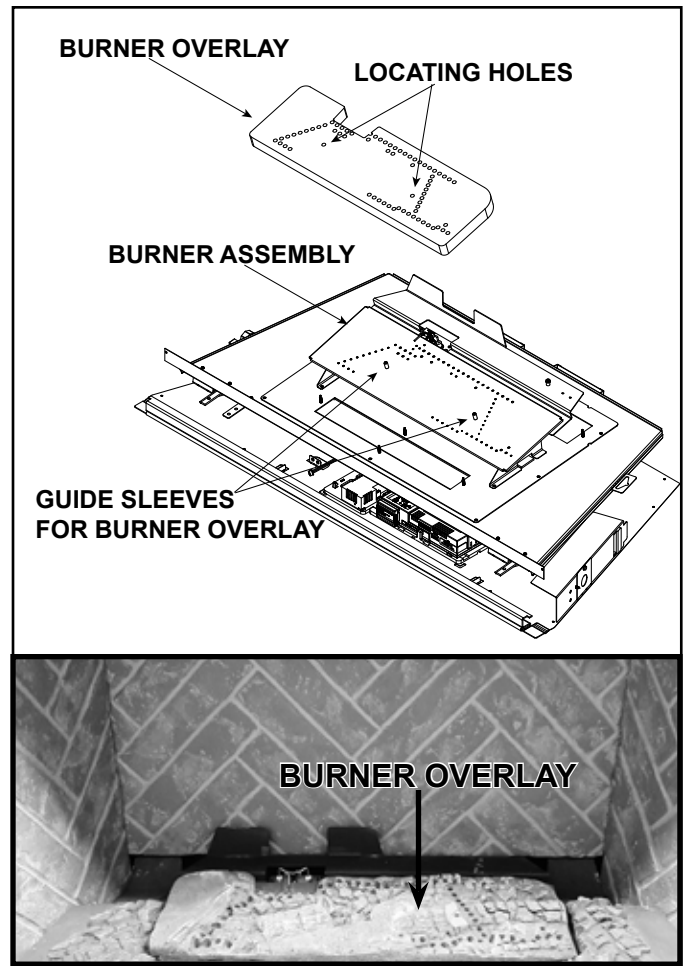

Figure 11.2 Burner Overlay Installed
3. To install the burner overlay, mate the locating holes with the guide sleeves. Install fiber burner top so that it makes full contact with the underlying burner assembly. See Figure 11.2.
4. Ensure that the ports in the steel burner are visible through the holes in the fiber burner top. See Figure 11.2.